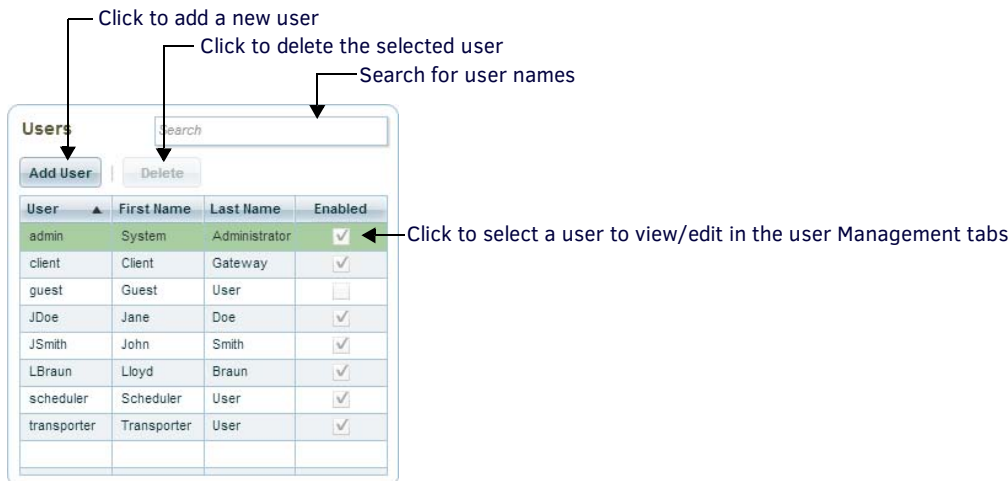
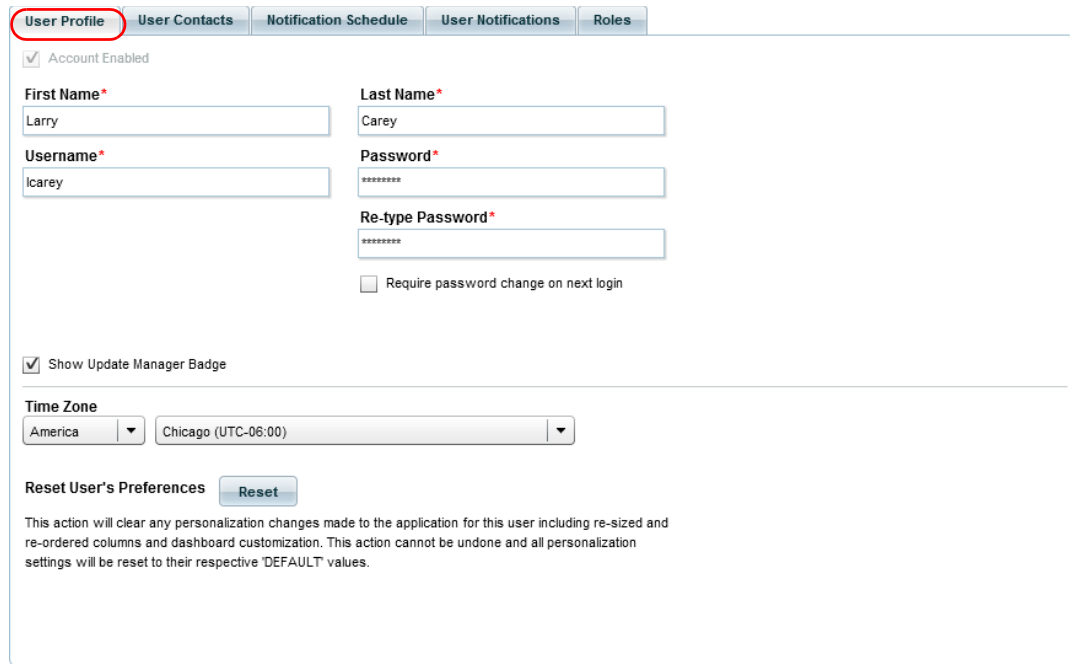

FIG. 298 User Management page - Users window
FIG. 299 User Properties Window - User Profile tab
Use the **Users** window to view and manage users. Initially, the Users window contains the default users, *Admin*, *Client*, *Guest*, *Scheduler* and *Transporter*. FIG. 298 shows the Users window indicating several sample users:
The options in the **User Profile** tab of the *User Properties* window allow you define, edit and view basic profile information for a selected user (FIG. 299).
1. In the *Users* window of the User Management page (FIG. 298 on page 181), click the **Add User** button. This action generates a new (empty) set of tabs in the *User Properties* window (FIG. 299 on page 182).
1. In the *Users* window of the User Management page (FIG. 298 on page 181), select a user from the list.